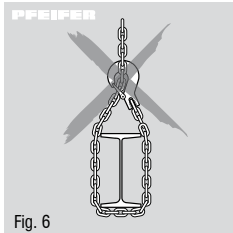

Fig. 6
- The load chain must not be used as chain ing (Fig. 6), nor may it be pulled across sharp edges.